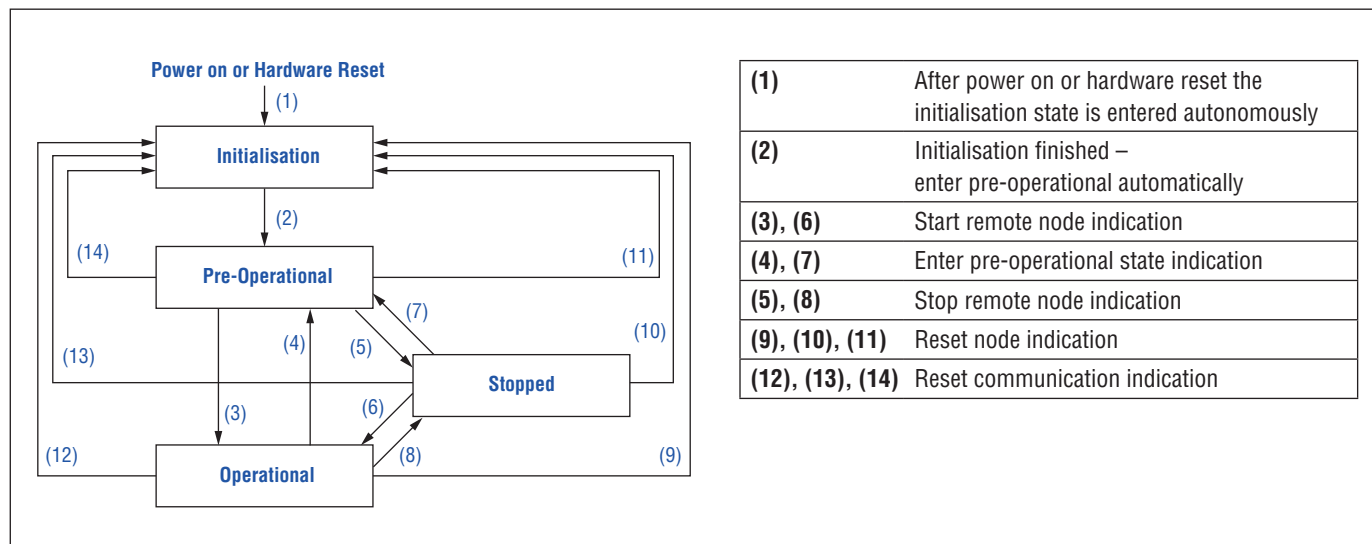

Fig. 16: CANopen state machine
In the pre-operational state communication via SDOs (chapter 5.6) is possible, while (PDO) communication is not allowed. Configuration of PDOs and device parameters may be performed. Also the emergency objects and error control service like the CANopen sensors “heartbeat message” occur in this state. The node will be switched into the operational state directly by sending a NMT “start remote node” (3) (Fig. 16).